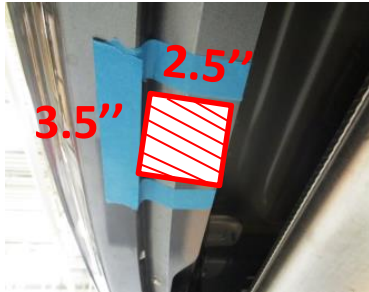

Figure 6
- Fascia trimming and reinstallation** – Mark the center line on the fascia and trim the area on fascia as shown in **Figure 6**. Reinstall all fasteners, wirings, and fascia removed in step 1. After the fascia have been reinstalled gently bend the fascia mounting tabs as needed to align with the fascia.